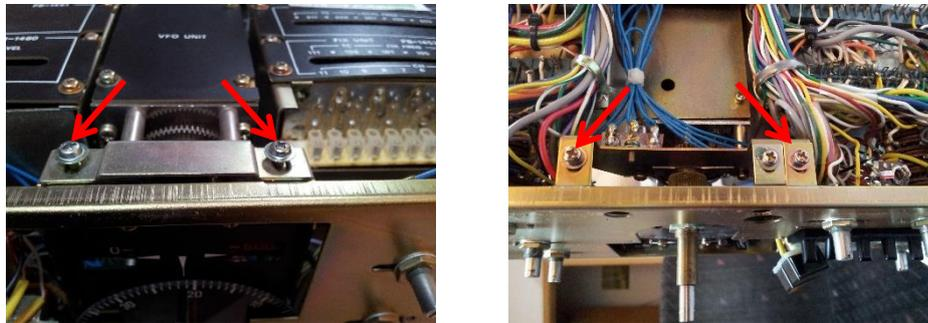

Figure 8
- Remove the 4 screws (two at the top and two at the bottom) with which the VFO is attached to the front cabinet. (see Figure 8).